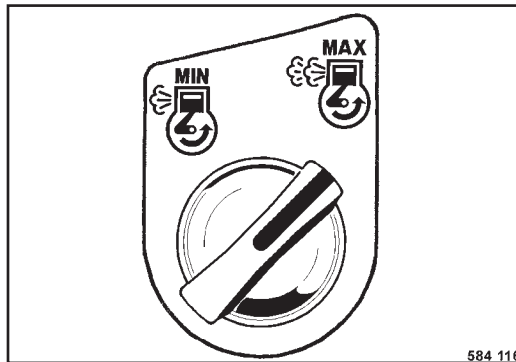

Fig. 45
- Turn the rotary switch (Fig. 45) to "Max" position (full throttle).